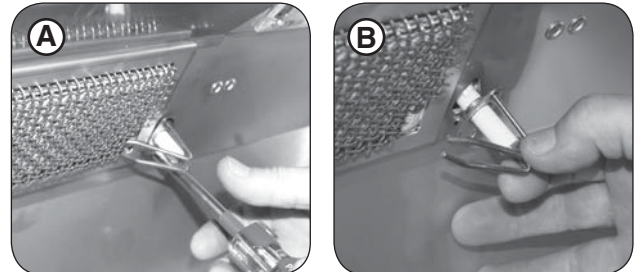

Fig. 34-2 Remove electrode
1. Remove the backburner electrode mounting screw (1/4" hex) (see Fig. 34-2, A) and loosen the electrode. Carefully pull the electrode assembly slightly from the grill wall to give enough clearance for the backburner to be removed (see Fig. 34-2, B).